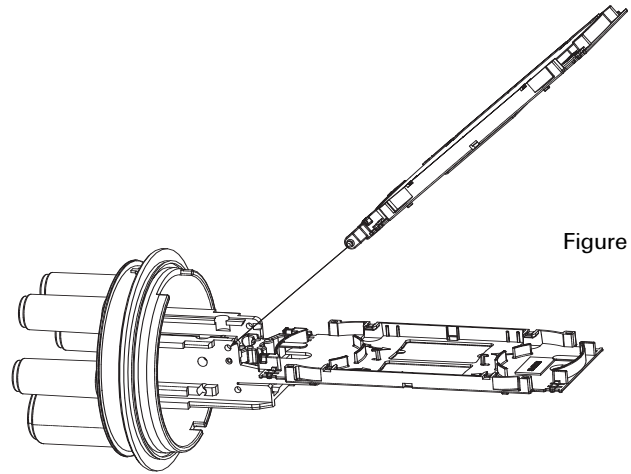

Figure 1
2. Install the hinged tray into the tray holder bracket of the closure. (Figure 1)